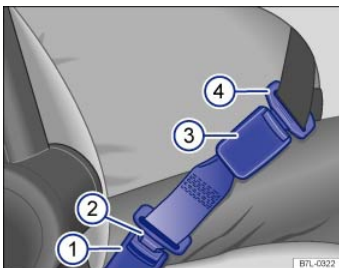

Fig. 67 A safety belt extender properly attached to the factory-installed safety belt.
Key to ⇒ Fig. 67 :
- Insert the buckle tongue on the safety belt extender ⇒ Fig. 67② into the vehicle belt buckle for the seat where the safety belt extender is being used ⇒ Fig. 67①.